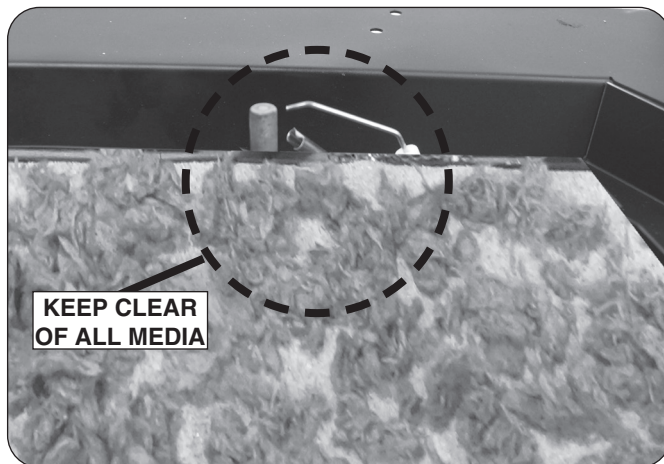

Fig. 21-2 Keep pilot clear
KEEP LAVA GRANULES/COALS, SAND/VERMICULITE, EMBERS, AND ALL FOREIGN OBJECTS AWAY FROM THE PILOT ASSEMBLY, VALVE ASSEMBLY, AND HEAT SHIELD(S) DURING MEDIA PLACEMENT AND AT ALLTIMES. SEE FIG. 21-2 FOR PILOT DETAIL.